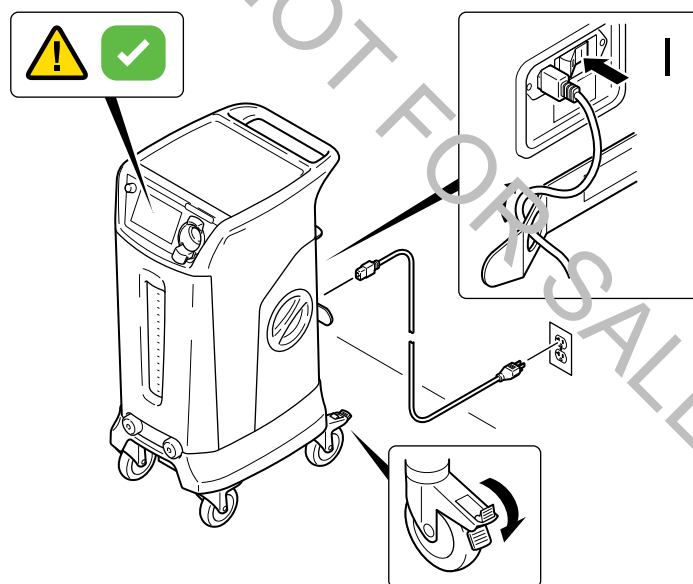

Figure 19 – To Prepare the Rover
2. Lock the rover's casters to prevent unintended rover movement (Figure 19).